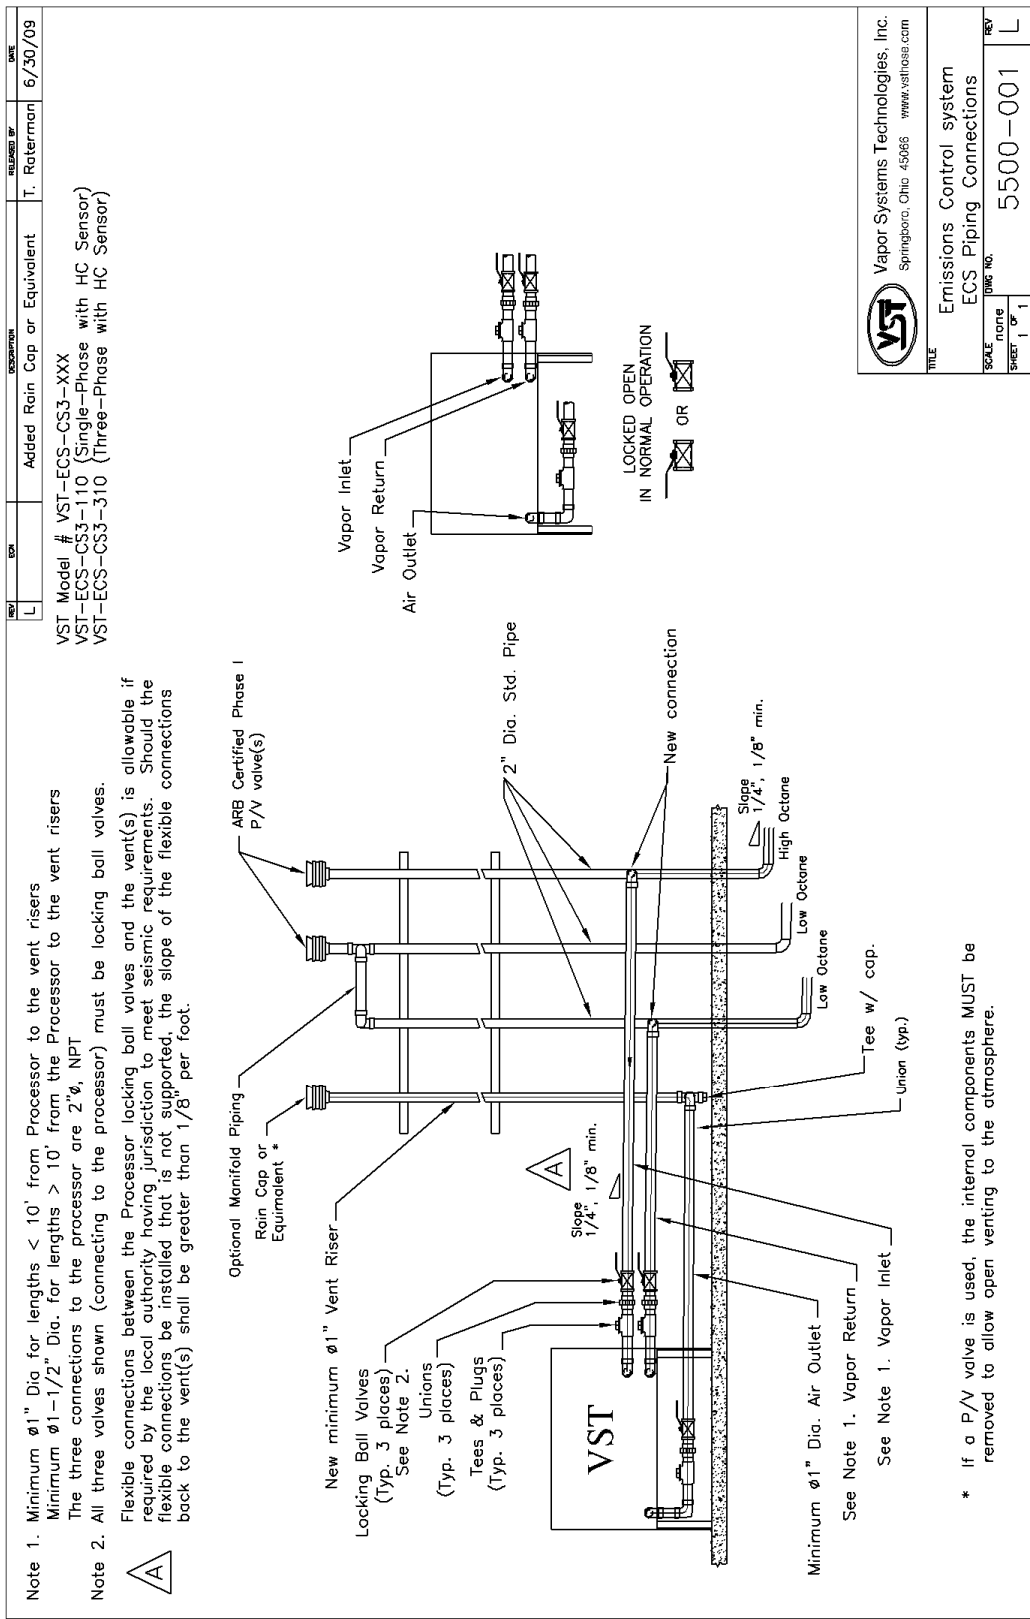

Figure 15: ECS Processor Piping Diagram
- See Figure 15 for pipe size requirements.
See Figure 15.